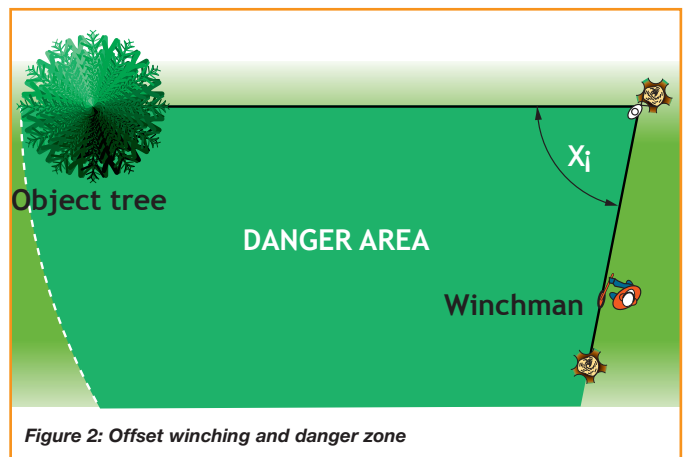

Figure 2: Offset winching and danger zone
- ❑ 20 A diverted pull may be used in confined sites to allow the operator to work in a safe position. Avoid walking or working in the triangle created by the offset winch cable (see Figure 2).
- ❑ 22 Be aware that when a snatch block is used, the loading on the block and anchor point can be doubled. The more acute the angle created, the greater the increase in loading (see Figure 2 angle X_i). The pulley block, strop and anchor point must therefore be up-rated accordingly.